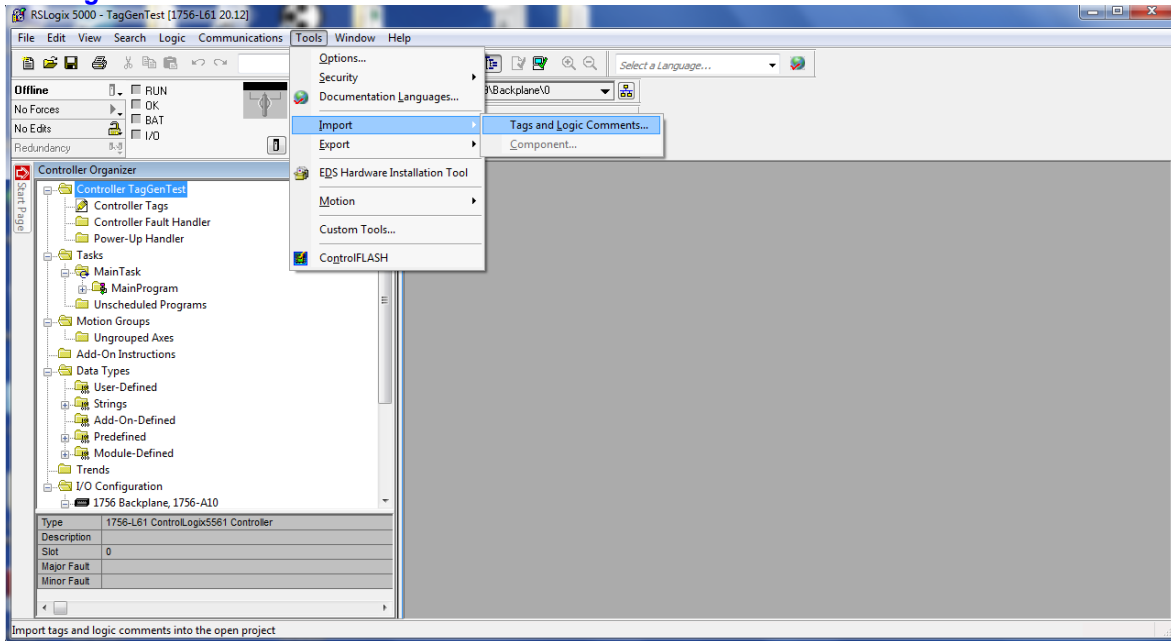

Figure 14 Import Tags into Logix Designer/RSLogix 5000
2. Select “Import”, then “Tags and Logic Comments...” using the “Tools” drop-down menu to open the Import dialog. Refer to Figure 14.